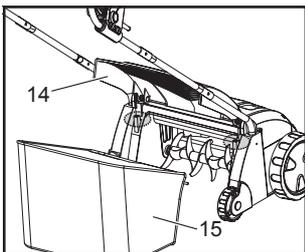

Fig. 6
a). Open the deflector guard (14), hold it in position and align the hooks on the grass catcher (15) with the hinges on the back of machine. (See Fig. 6).
b). Empty the grass catcher (15) frequently during use. Do not wait until it is completely full. We recommend emptying it when it is half full.
c). Lift the deflector guard (14) and pull the grass catcher (15) off the hinges to remove it.